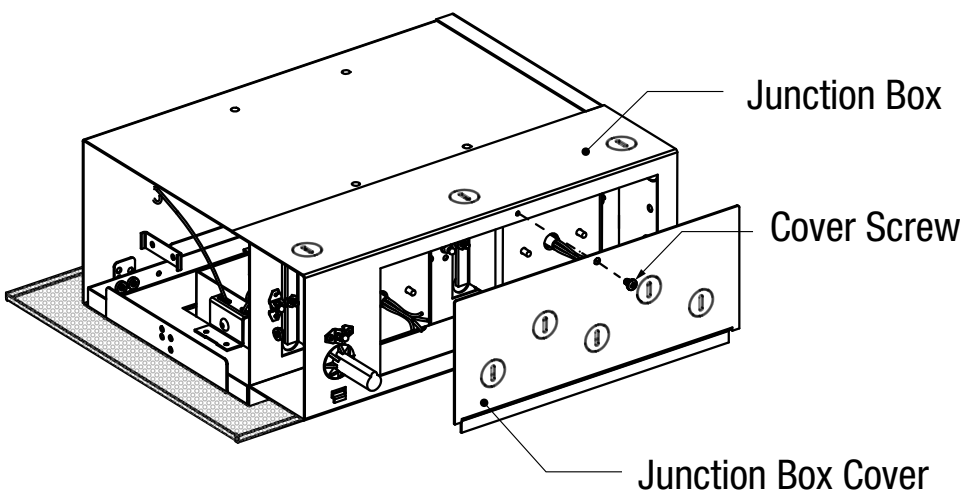

FIGURE 6
Step 2. Remove junction box cover **Fig 6**.
Step 5. Place all connections and excess wiring into the junction box and replace cover **Fig 6**.